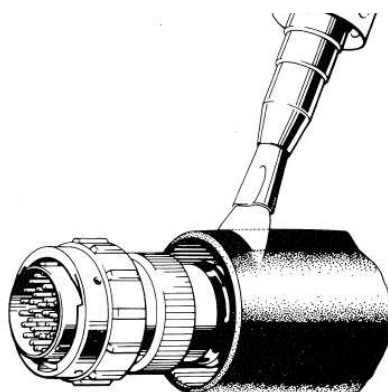

Figure 8 Heat application
5.12. Using a CV1981 Heat Gun set to 230°C to 250°C and with a PR-26 reflector, start heating at the connector end directing the heat towards the connector. Heat must be applied evenly around the Rayaten Moulded Part to recover evenly and prevent scorching. When the lip of the Rayaten Moulded Part is fully recovered into the adaptor groove and the body is parallel for the first 10-15 mm of its length, look for evidence that S1125 adhesive is present, cease heating and remove any excess adhesive from the adaptor/ Rayaten Moulded Part. See Figure 8.